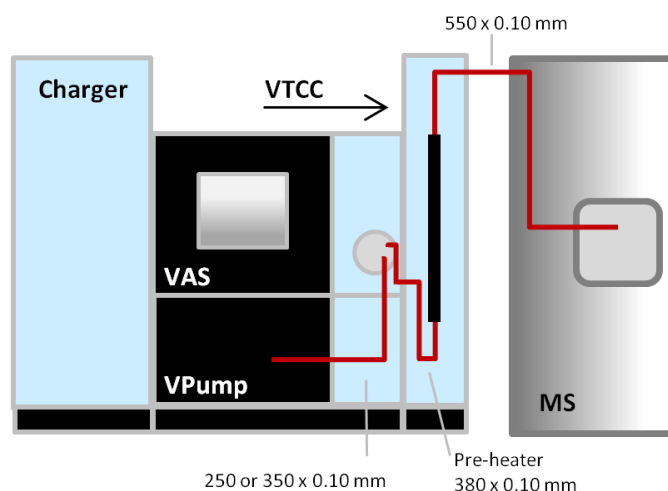

Figure 11. Setup for a Vanquish system with a Charger as front-end for Orbitrap Exploris/Orbitrap Tribrid/Ion Trap/Triple Quadrupole mass spectrometers.
- 2) Stack the modules as shown below and make all fluidic connections using Viper capillaries, according to Figure 11. The picture illustrates the course of the flexible Viper capillaries in general. Thermo Fisher Scientific recommends installing all capillaries inside the modules as needed. Table 11 provides a detailed overview on the capillaries used and where to find them.